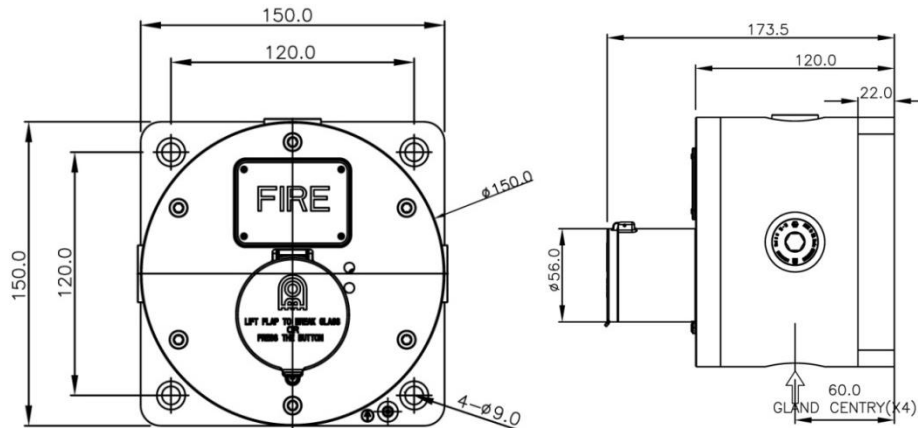

Fig. 1
The product should be mounted on a vertical surface using four (4) fixing holes in the base. The fixing holes are designed to fit M5 Allen Screw only. Use of stainless steel fastener is recommended by BARTEC TECHNOR. If you need mounting plate, please contact BARTEC TECHNOR to ask the installation drawing of the mounting plate. (See Fig 1)